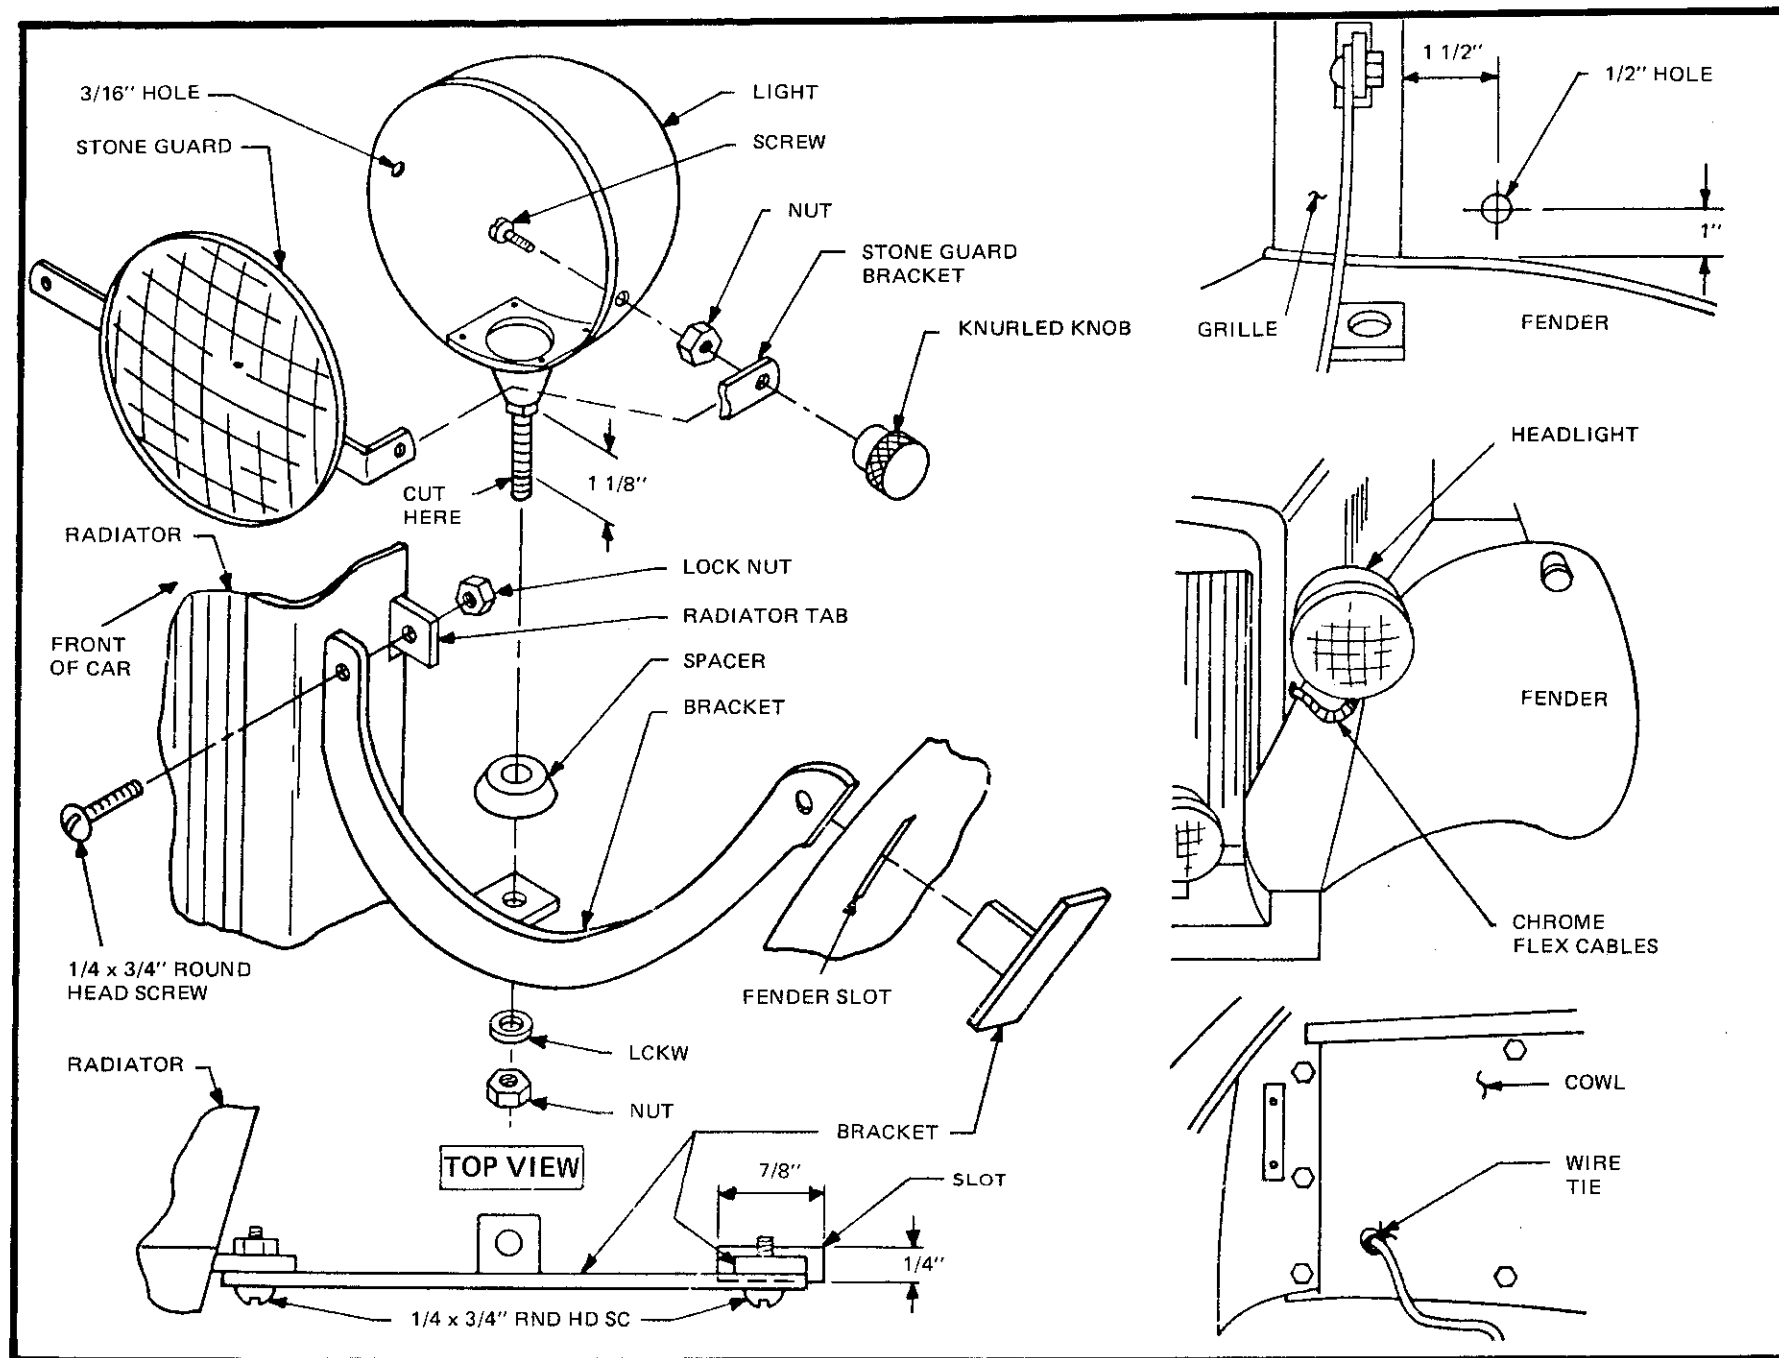

Figure 61
- ☐ Refer to Figure 61 and exploded view for general construction. Position the main headlight brackets against the radiator shell and bolt to the brackets previously installed in the shell. (Headlight mounting tab must face rearward.) Bolt with 1/4 x 3/4" round head machine screws with locknuts. Hand tighten. At this time make sure the fenders sit at the same height. Adjust them by propping with a length of 2 x 4. Mark the location where the bracket contacts the fender. Cut a slot 7/8 x 1/4" so the slot is adjacent to the rear surface of the bracket. Insert the small fender mounted headlight support from beneath the fender, and bolt to bracket, using 1/4 x 3/4" round head machine screw with lock nut. Tighten all bolts. From underneath the fenders, lay fiberglass matting over the bracket and saturate with resin.